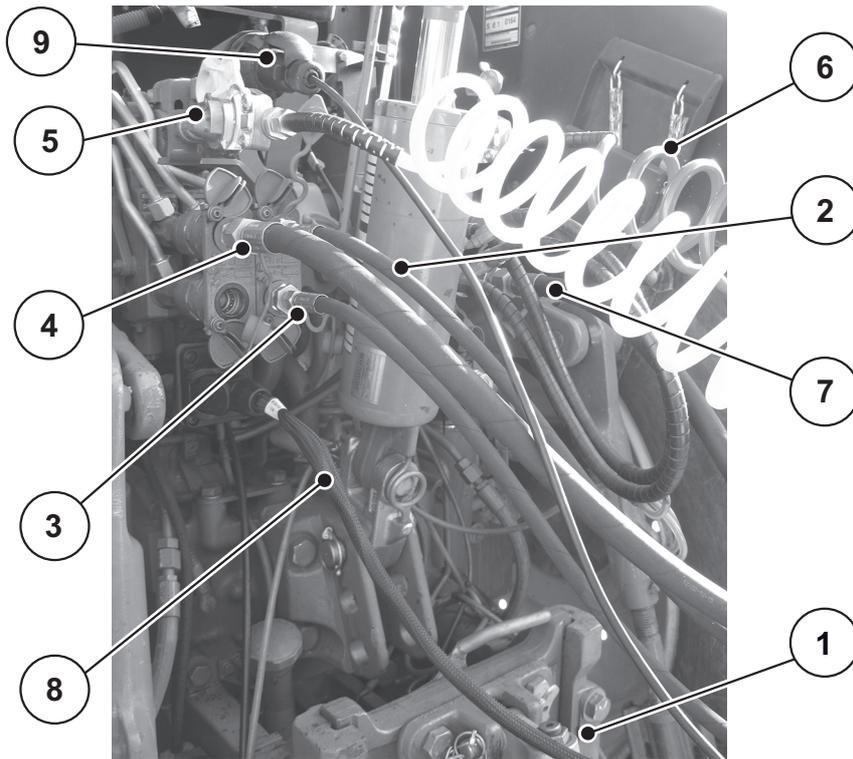

Figure 6.7: Connection order
There are 2 coupling variants, in figure 6.7 the ball coupling variant is shown.
See figure 6.7.
- Observe the connection order: See figure 6.7.